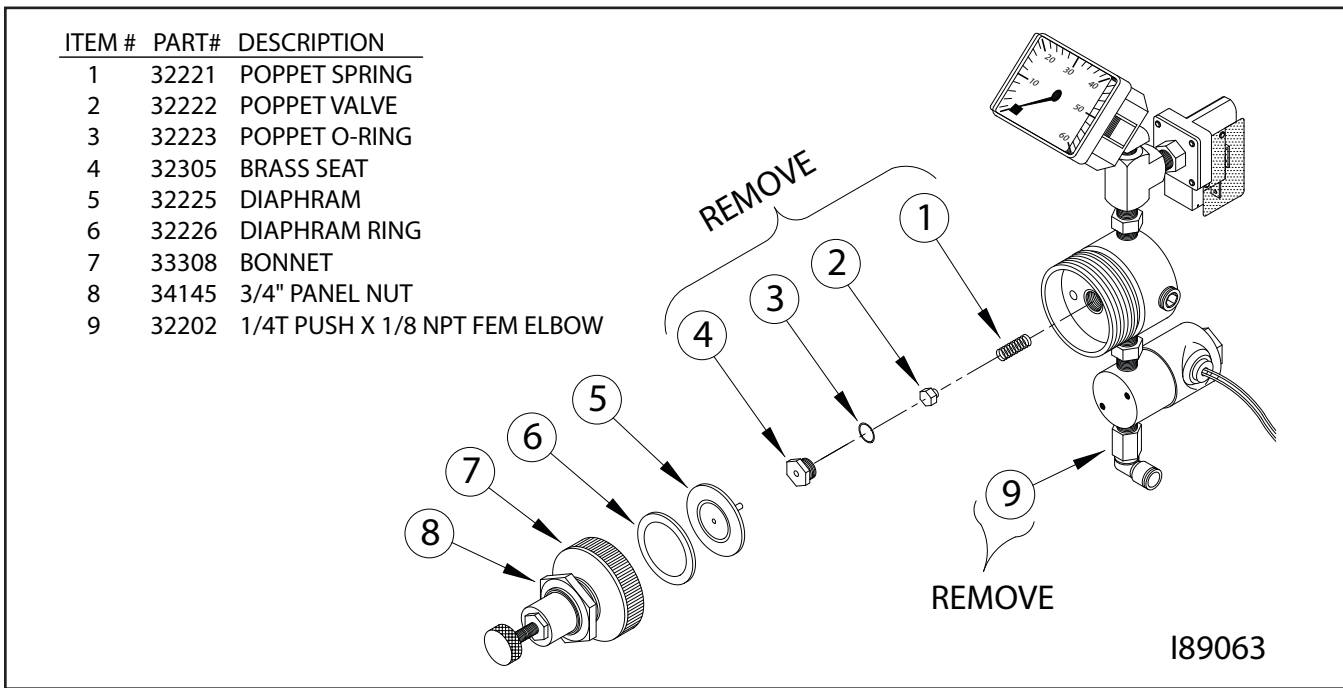

Figure 3I - Removing the Air Regulator Components on the Saturn Burner
3. Refer to Figure 3I. Loosen the 3/4" nut on the air regulator bonnet and slide the air regulator assembly out of the electrical box.
1. Refer to Figure 3I.